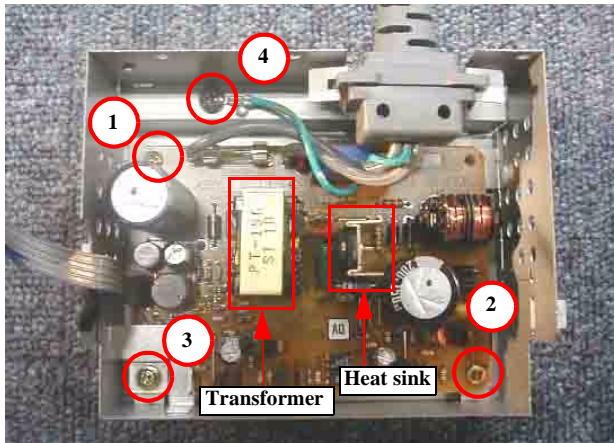

Figure 4-25. Tightening procedure for the PSB/PSE board
- Make sure to place three wires of the AC cable away from the Transformer and the Heart sink on the Power supply board. (Refer to Figure 4-25)
- Make sure to set the Power supply radiator in the correct position. (Refer to Figure 4-25)